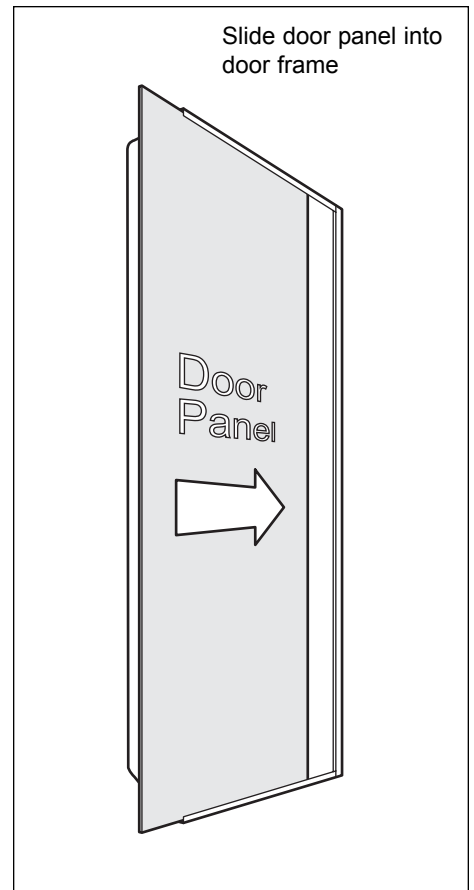

Figure 2-11. Door Panel Install
- c. Slide door panel into door frame (See Figure 2-11), then reinstalling handle/trim and magnetic trim molding.